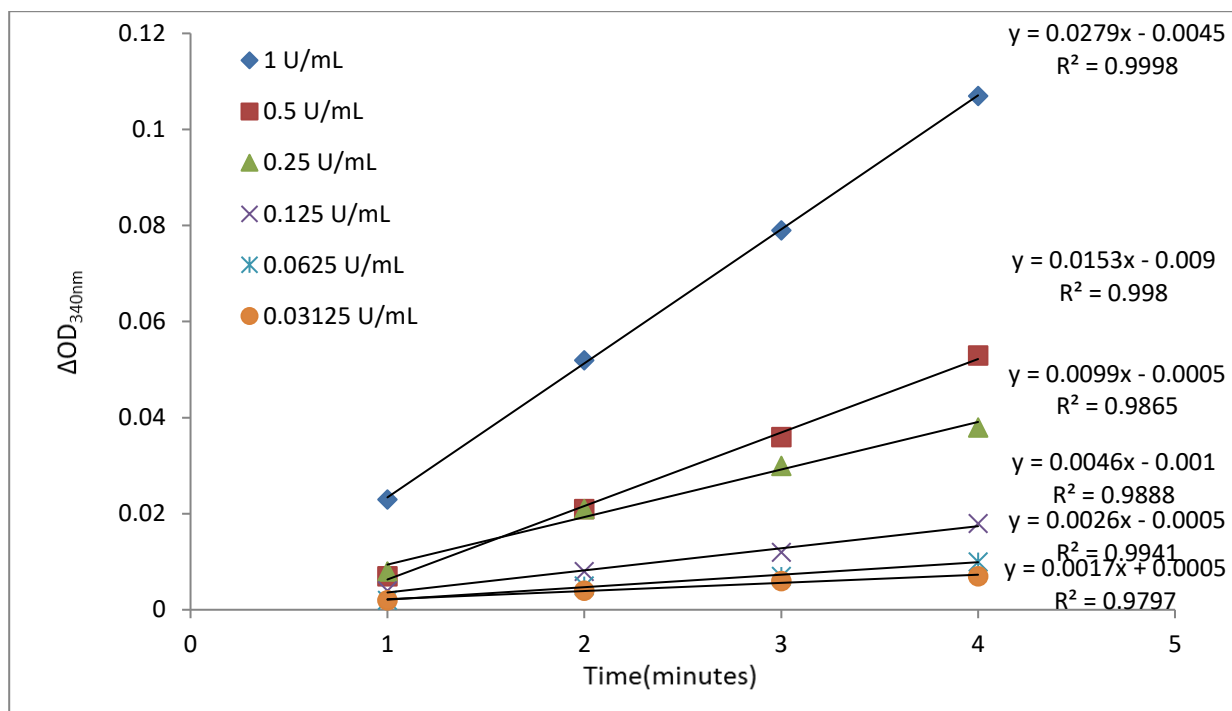

Figure 1. Standard curves of  $\Delta OD_{340nm}$  vs reaction time for alanine transaminase solution with different activity.
Serially diluted alanine transaminase solutions with concentrations ranging from 0.03125 to 1.0 U/mL are measured with the ScienCell™ Alanine Transaminase Assay kit. The decrease in  $OD_{340nm}$  is monitored as a function of time (Figure 1) and the resulting standard of  $\Delta OD_{340nm}/min$  vs alanine transaminase activity are plotted (Figure 2). A positive linear relationship between  $\Delta OD_{340nm}/min$  & alanine transaminase activity can be observed.
- Based on the  $\Delta$ OD340nm of the alanine transaminase standard solutions, plot the absorbance at  $\Delta$ OD340nm as a function of reaction time (Figure 1) in which  $\Delta$ OD340nm/min is calculated.
Figure 2. A standard curve of  $\Delta OD_{340nm}/min$  vs alanine transaminase activity, wherein the  $\Delta OD_{340nm}/min$  is calculated as the slope of the standard curves shown in Figure 1.